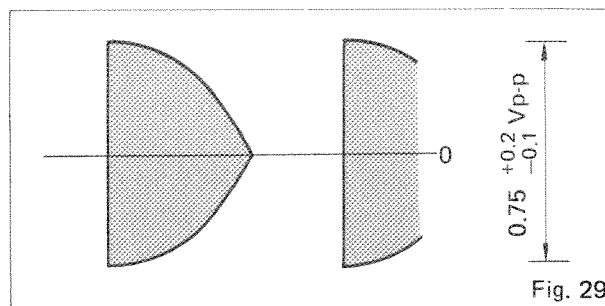

Fig. 29
2. Waveforms as provided in Figures 29 and 30 should be obtained when speed switch is set to the center position and $\sim/\nearrow/\sqcap$ controls set to each specified position in item E-1.